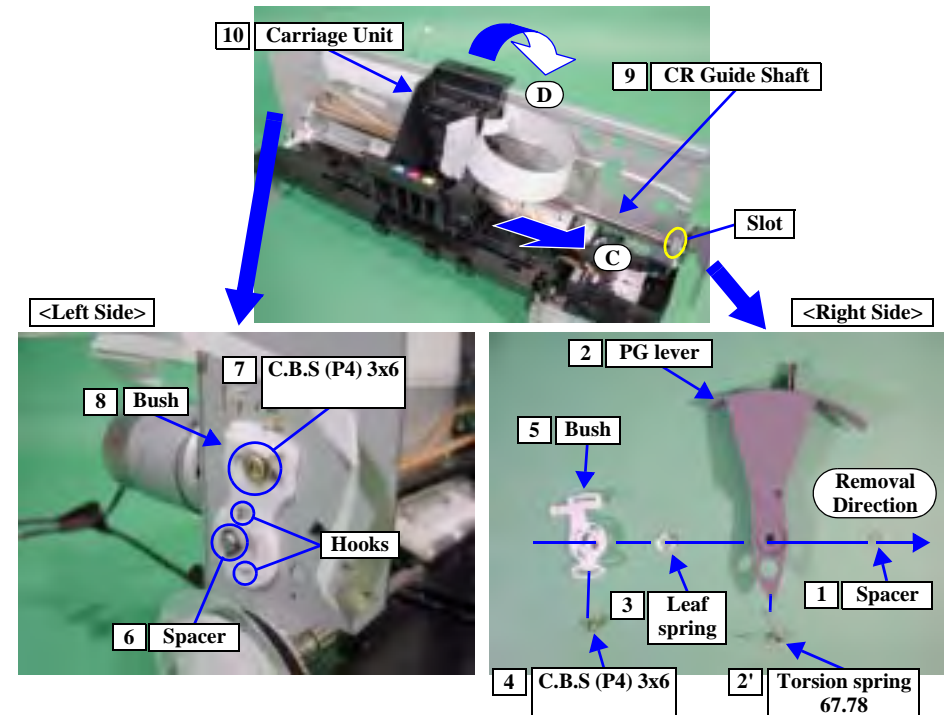

Figure 4-64. CR Guide Shaft/Carriage Unit Removal 2
4. Follow order shown in Figure 4-64 (lower right photo) to remove these items from the Printer Mechanism: (1) Spacer. (2) PG Lever. (2') Torsion Spring 67.78. (3) Leaf Spring. (4) 1 Screw (C.B.S (P4) 3x6). (5) Bushing.
5. Follow order shown in Figure 4-64 (lower left photo) to remove these items from the Printer Mechanism: (6) Spacer. (7) 1 Screw (C.B.S (P4) 3x6). (8) Bushing.
Be careful when installing the Bushings at each side of the Printer Mechanism because the Left Bushing and Right Bushing have different shapes. (See Figure 4-64)